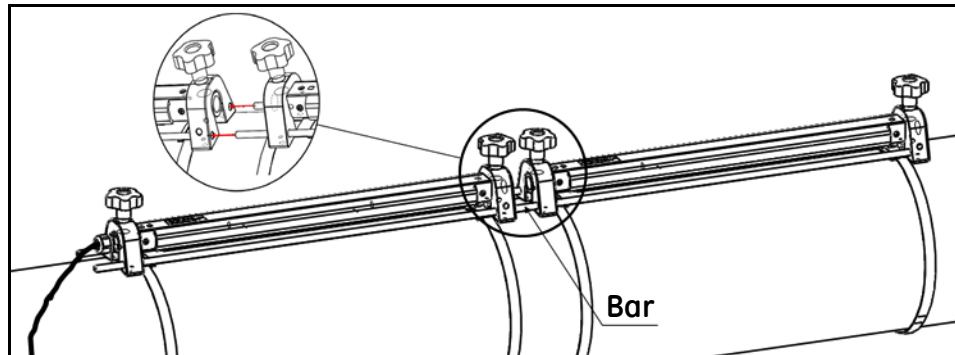

Figure 15: 2 Traverse Installation with 2 Clamp-On Fixtures
2. Hold one of the clamp-on fixtures, with two transducers and one cable, against the pipe between the upstream pair of straps and move the two mounting straps onto the fixture (see *Figure 15* below). Then, tighten the screws on the mounting straps, and verify that the straps remain in place on the fixture.